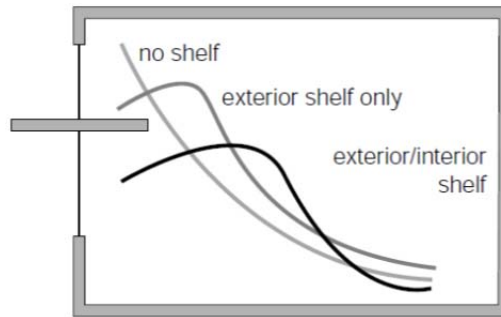

Figure 13: Illustration of how a light shelf improves daylight distribution and softens the light gradient within the room.
- Light shelves can improve illuminance distribution and reduce glare, as shown in Figures 13 and 14.